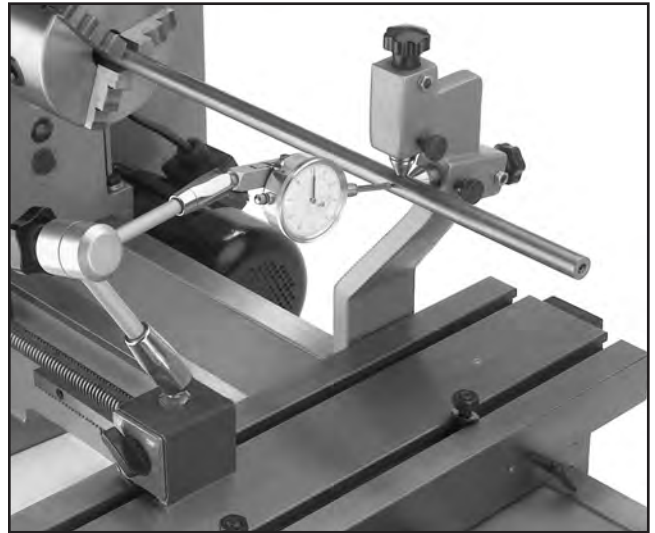

Figure 31. Setting the brass finger with an indicator.
5. Adjust the brass fingers until they lightly touch the workpiece. Note—*To minimize deflection of the part during set up, use the method shown in (Figure 31). The indicator is set opposite to one of the brass fingers and the brass finger is adjusted until the needle on the dial moves, then it is backed off to the original setting. Each brass finger is adjusted this way.*